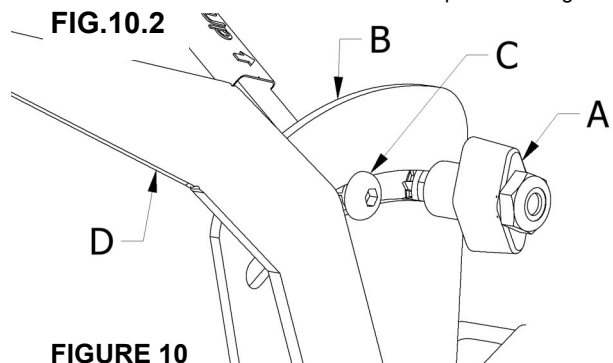

FIGURE 10
This machine uses a familiar 3-hole cyclone type spreader mechanism, and comes factory set to broadcast spread a pattern width of **14 ± 1 FEET** (4.3 ± 0.3 meters). Using a **7 ± 1 FOOT** (2.1 ± 0.3 meters) overlap travel pattern provides an even distribution of most products. **NOTE:** Actual spread pattern width and overlap may vary based on your calibration (refer to Spreader Calibration in this section). Referring to **FIGURE 10:** A Deflector Lever (A) remotely controls a Deflector to cut off the right side of the spread pattern for trimming. A Third-hole Lever (B) remotely controls a Third-hole Adjustment Plate that should be used with the Deflector to compensate for the amount of product required while trimming and to balance the spreader pattern for even distribution. An opening and closing Hopper Lever (C) remotely controls the delivery of granular material from the Hopper. A Rate Adjustment Knob (D) adjusts the amount of product delivered when the hopper is open. The sprayer can be operated at the same time the spreader is in use, and the seven-foot overlap pattern is also effective for the sprayer.